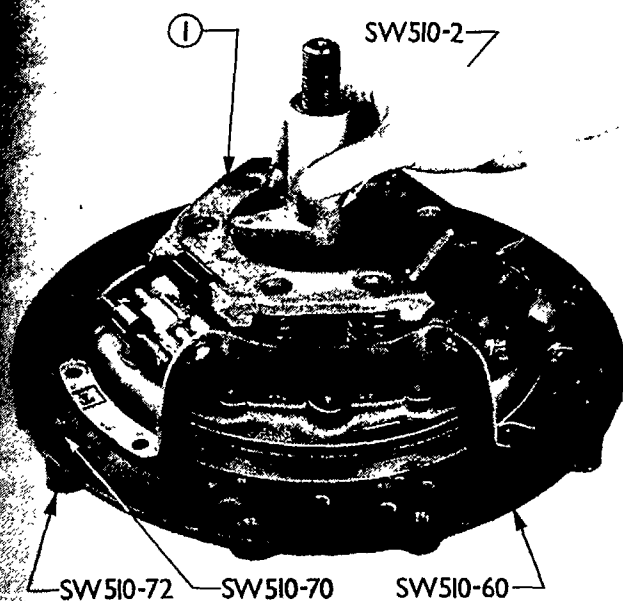

Figure 38
8. Lower the pressure plate and cover assembly onto the fixture, and using Release Lever Gauge SW510-2 as shown in Figure 38, center the assembly on the fixture by rotating the gauge completely around the inside of the spring retainer. After the clutch is centered on the fixture base remove the release lever gauge.